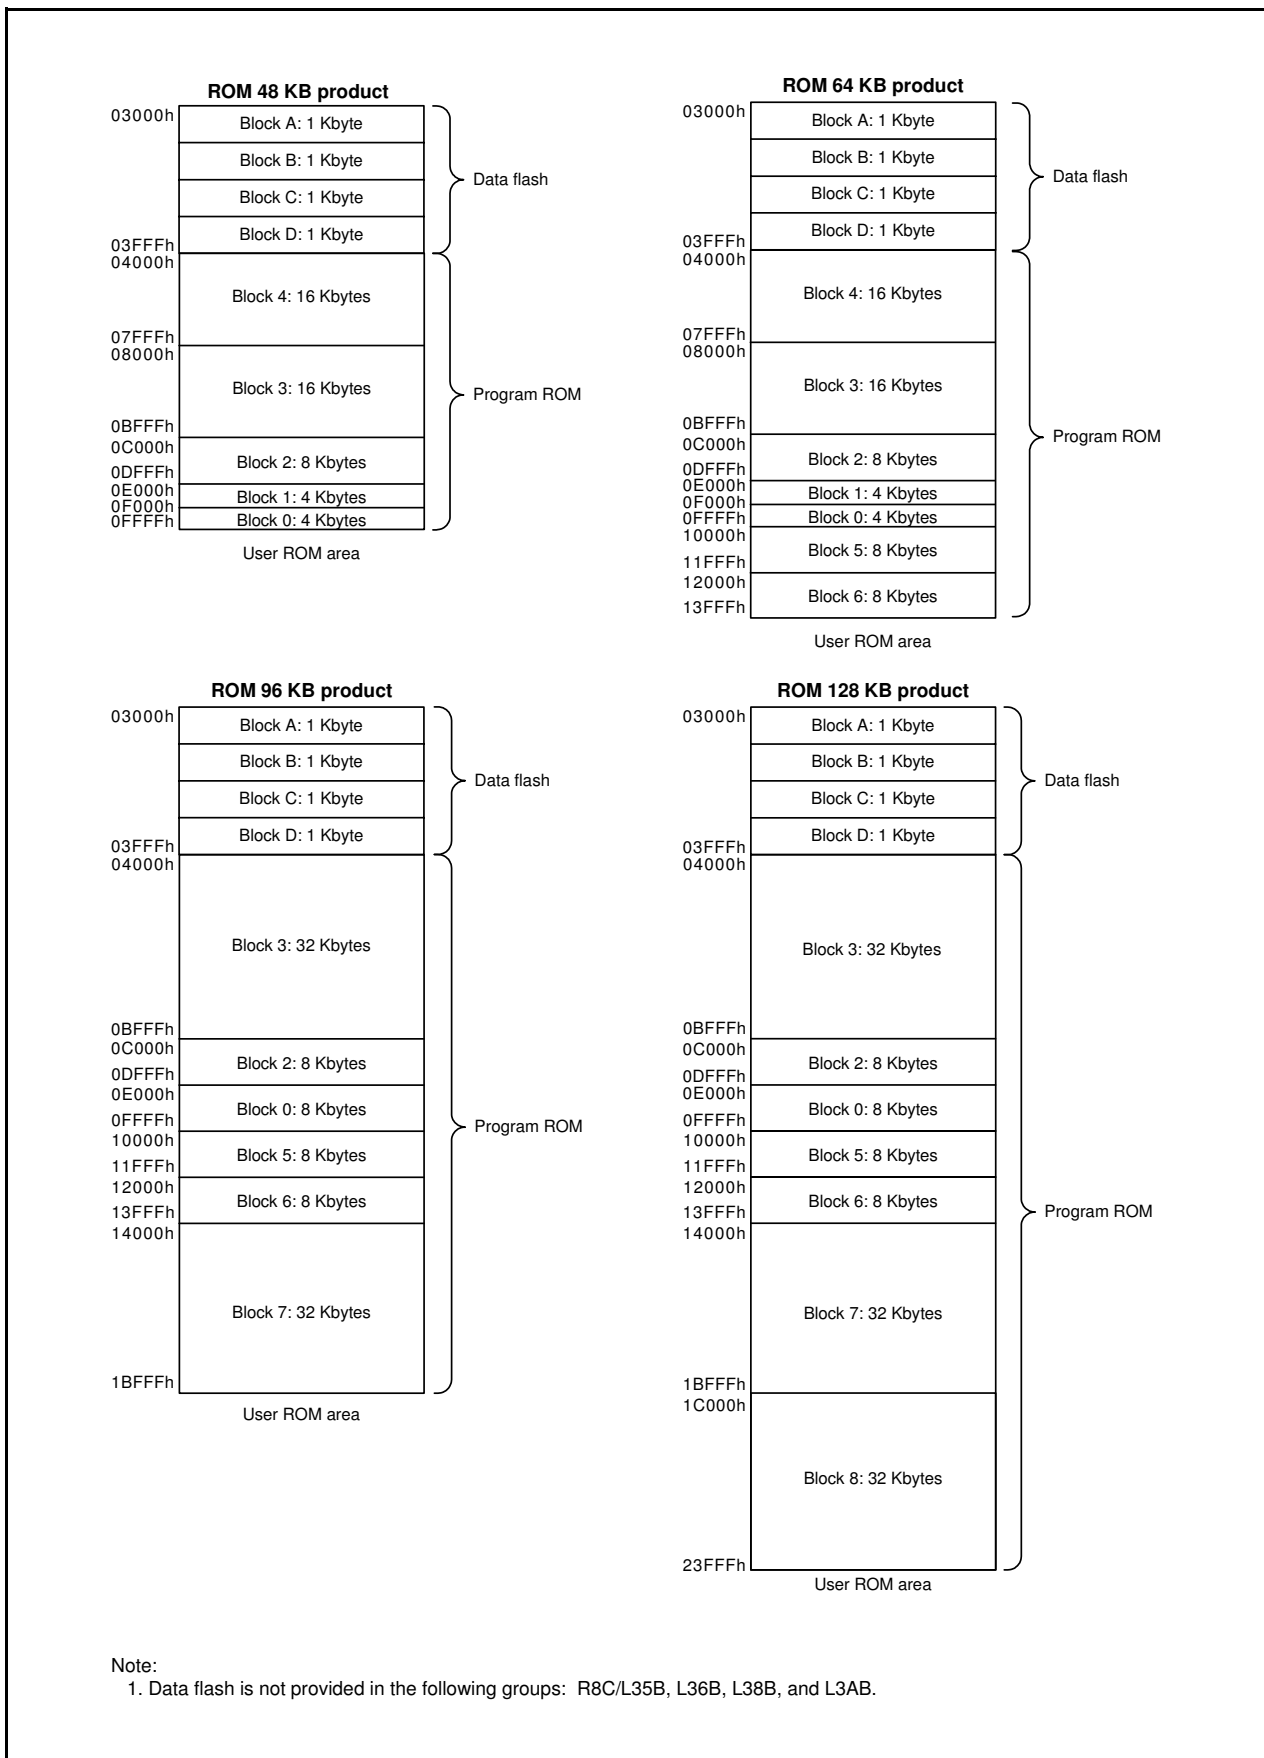

Figure 33.1 Flash Memory Block Diagrams of R8C/L35A, L36A, L38A, L3AA, R8C/L35B, L36B, L38B, and L3AB Groups
- The number of blocks and block division vary with the MCU. Refer to **Figure 33.1 Flash Memory Block Diagrams of R8C/L35A, L36A, L38A, L3AA, R8C/L35B, L36B, L38B, and L3AB Groups** for details.
Figure 33.1 shows the Flash Memory Block Diagrams of R8C/L35A, L36A, L38A, L3AA, R8C/L35B, L36B, L38B, and L3AB Groups.